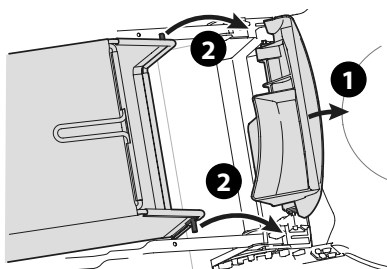

Figure 8
1. Lift mower rear discharge door. (Figure 8).